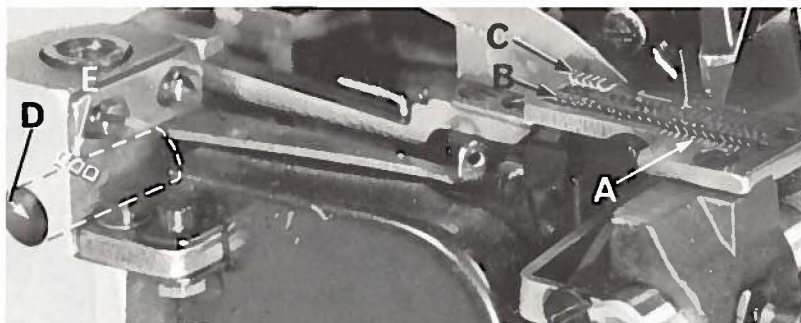

Fig. 11
Now assemble main (back) feed dog (B, Fig. 11) and chaining feed (C). Set all feed dogs (A, B, C, Fig. 11) so the top surfaces of the teeth all lie in the same plane. This can be checked by sighting across the teeth with a straight edge. Now assemble throat plate. Feed dogs should now be leveled with throat plate surface by rotating feed tilting adjusting pin (D). This pin raises or lowers the back end of both feed bars at the same time.